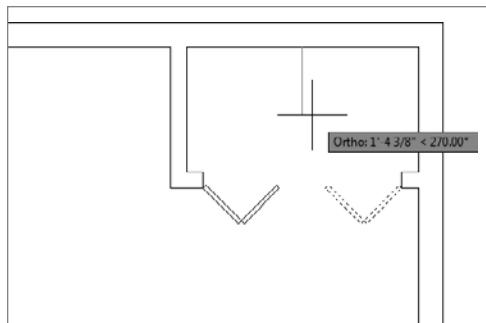

FIGURE 4.78 The closet door is complete.
15. Choose the midpoint of the back wall of the closet as the first point of the mirror line. Then move the cursor downward to mirror the existing panels directly to the left, as shown in Figure 4.78. Click to set the second point, and then press ↵ to retain the source objects.